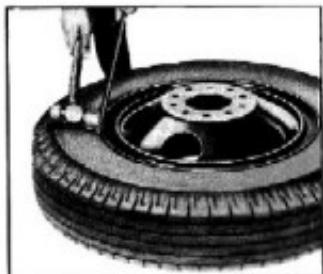
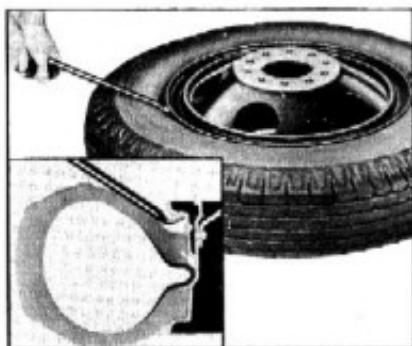

Fig. 68—Starting Side Ring Removal
Fig. 69—Removing Side Ring
4. Drive the curved end of the tire iron in between the side ring and the entire bead (fig. 68). Then pry down on the opposite end of tire iron to move the tire bead away from the side ring flange (fig. 69). Continue the foregoing operation progressively around the tire until the side ring is removed. In some cases it may be necessary to work around the tire a couple of times.